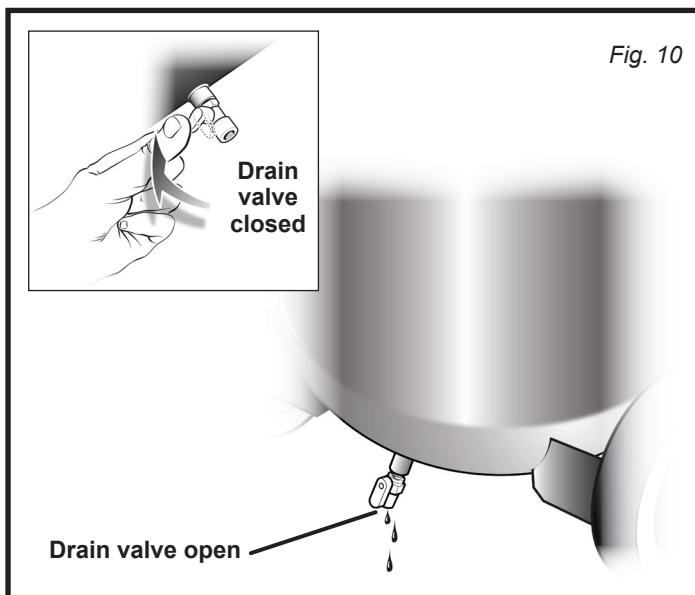

Fig. 10
See figure 10.
- Open the drain valve by rotating it $\frac{1}{4}$ turn counterclockwise (fig. 10).
- Close the drain valve by rotating it $\frac{1}{4}$ turn clockwise (fig. 10).